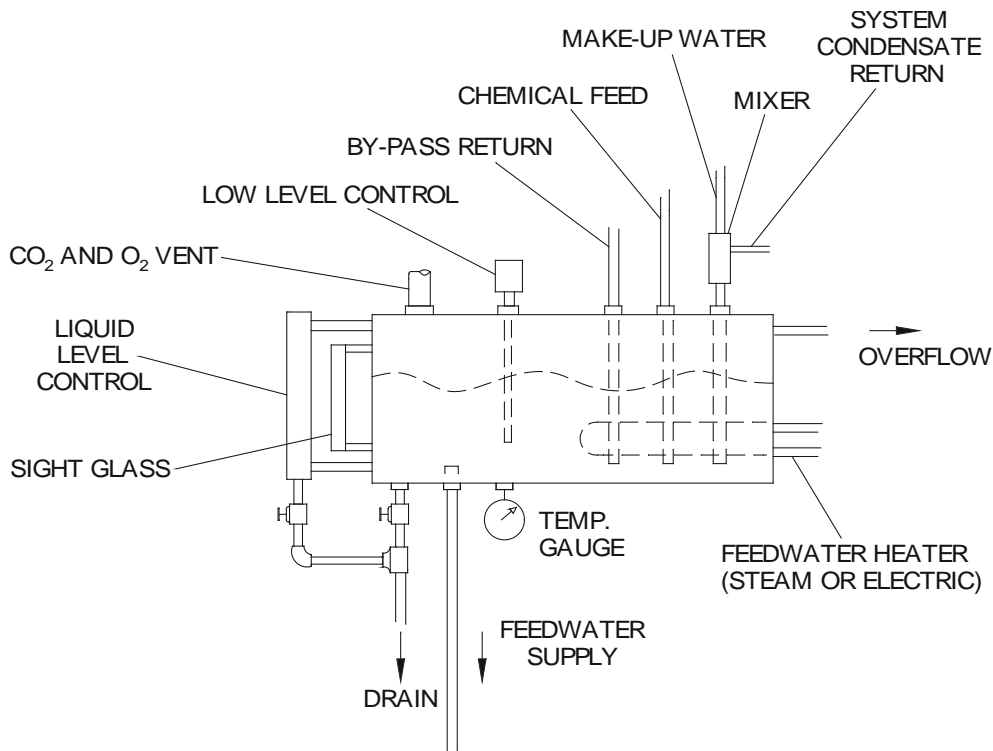

Figure 10. Water Tank Installation
- 9.1.2** The best method for handling boiler feedwater is a well designed deaerator. The next best method is a well designed feedwater tank such as is illustrated in Figure 10.